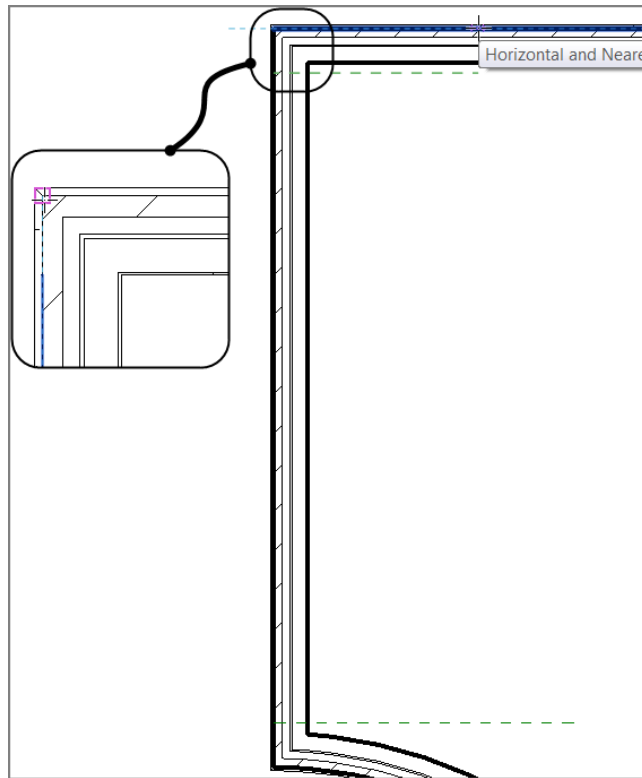

FIGURE 4.18: The two reference planes are established.
6. With the Ref Plane command still running, repeat the procedure for the top of the wall. You want to pick the top, outside face of brick, avoiding the concrete ledge below, as shown in Figure 4.18.